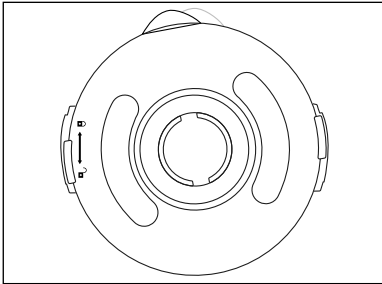

Fig. 1
- 2) Remove the lid **2** by turning it anticlockwise towards position  (see Fig. 1) until you can pull it upwards.